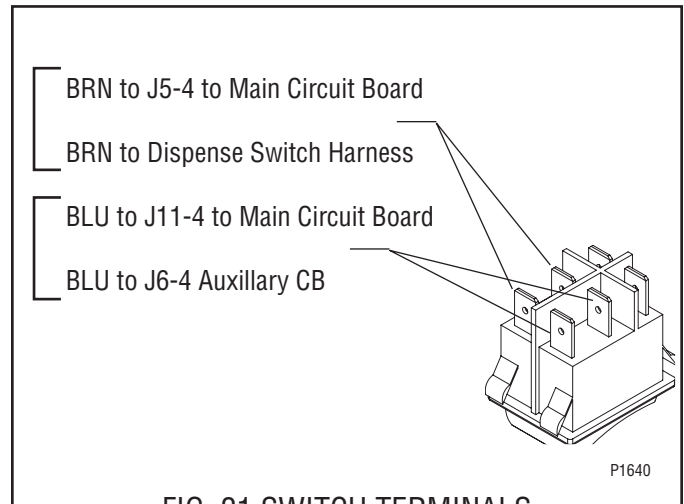

FIG. 21 SWITCH TERMINALS
5. With an ohmmeter, check for continuity between the terminals shown in Fig. 21.